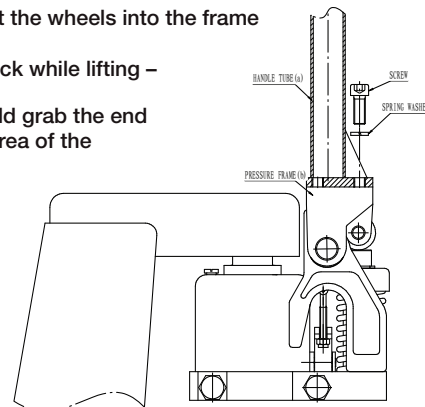
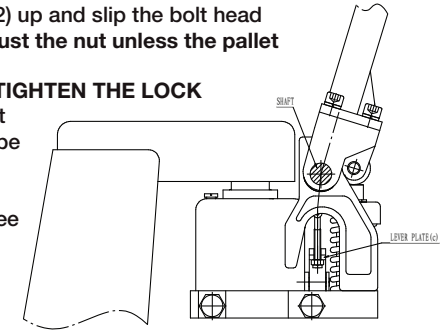

Fig.1
Fig.2
1. Put the base of the HANDLE TUBE (Fig. 1) on the PRESSURE PLATE (Fig. 1). Align the holes (Fig. 1) at the base of the HANDLE with the holes in the PRESSURE PLATE. The chain should drop through the middle hole of SHAFT (Fig. 2).
2. Using a screwdriver, pry the LEVER PLATE (Fig. 2) up and slip the bolt head under the notch in the LEVER PLATE. Do not adjust the nut unless the pallet truck doesn't work properly.
- WARNING:** DO NOT LOOSEN OR OVER TIGHTEN THE LOCK NUT (13). The nut is pre-locked on the bolt at the factory. If this lock nut is damaged or needs to be replaced, call customer service at 1-800-222-5381.
3. Secure the HANDLE to the pallet truck by the three SPRING WASHERS and SCREWS (Fig. 1).